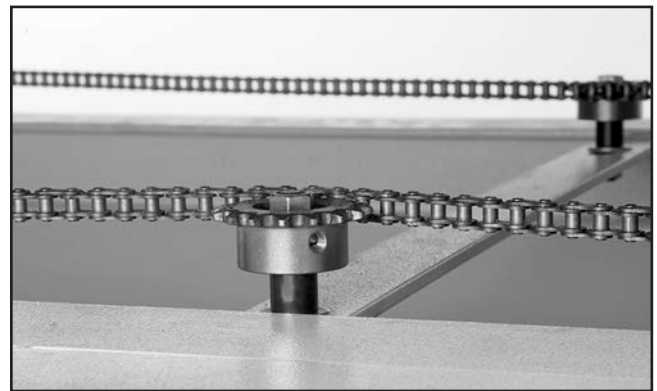

Figure 68. Adjustable idler roller sprocket.
5. Using two 14mm wrenches, loosen the adjustable idler roller (**Figure 68**).